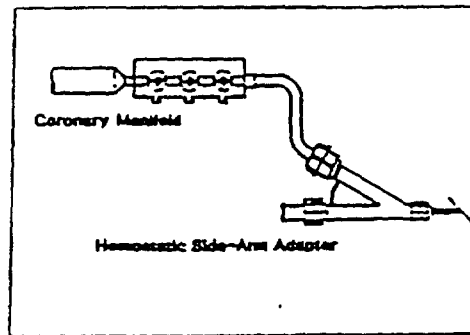

Figure 2 Connecting the hemostatic side-arm adapter to a coronary manifold.
2. Attach a coronary manifold to the side arm of the hemostatic side-arm adapter with a short connecting tubing (Figure 2). Flush the device with normal saline to eliminate any air. To properly flush the valve arm, use a thumb or finger to cap the fitting that connects the arm to the guiding catheter. Open the valve, and flush saline through the device. Close the valve, and connect the hemostatic side-arm adapter to the guiding catheter.